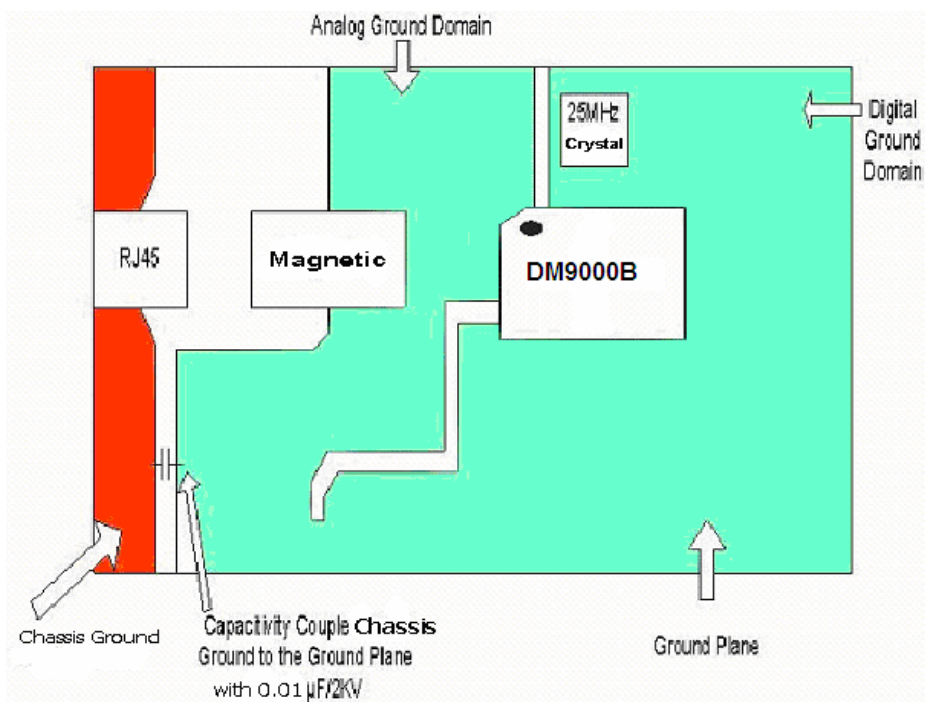
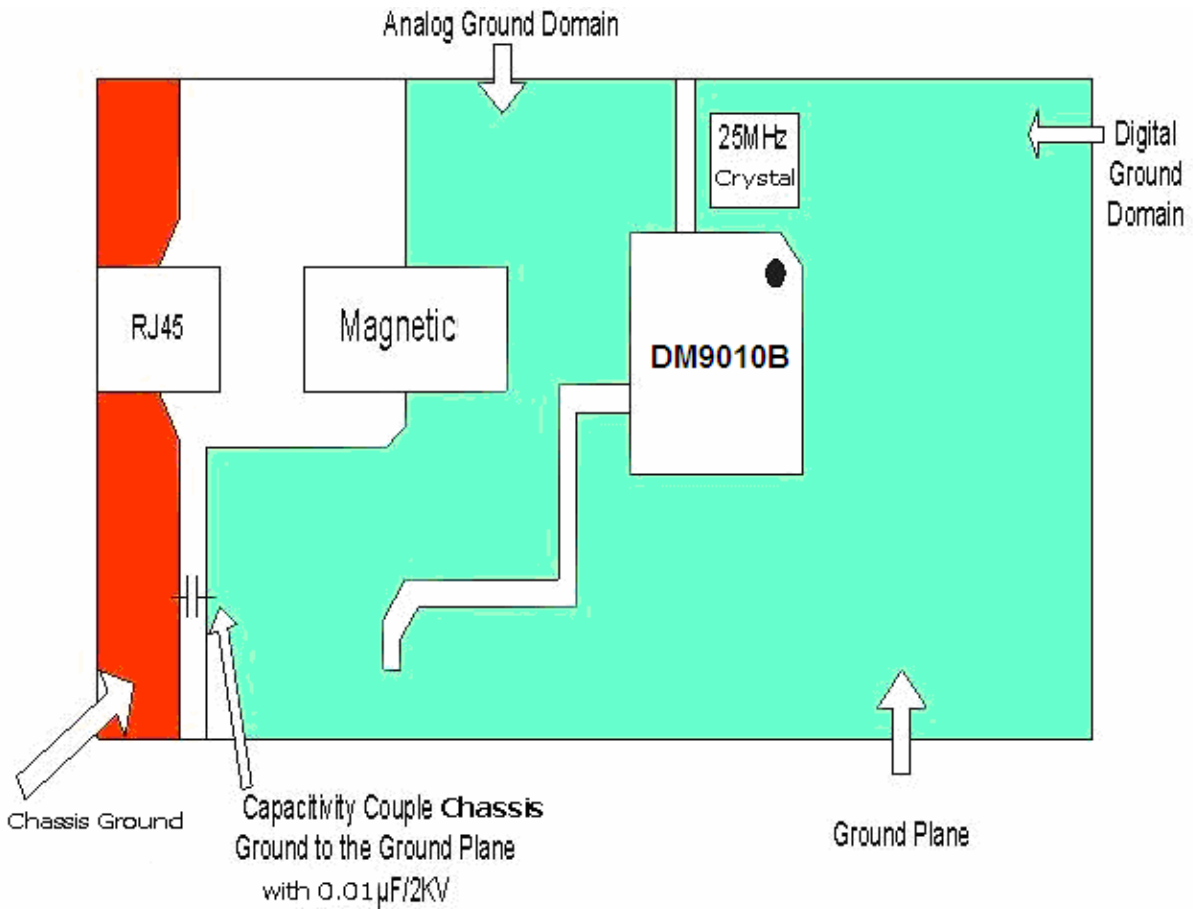

Fig.4-1 Ground plane separation for DM9000B
Fig.4-3 Ground plane separation for DM9010B
- Ground plane need separate analog ground domain and digital ground domain, the analog ground domain and digital ground domain connected line is far away the AGND pins of DM9000B / DM9010B (see Fig. 4-1, Fig. 4-3).